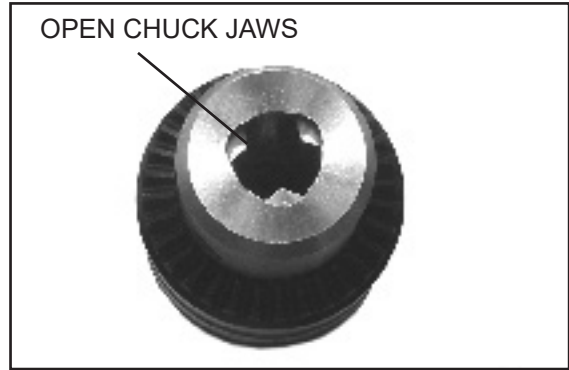

Figure 10
1. Open the chuck jaws as wide as possible to prevent any damage. (Fig. 10)